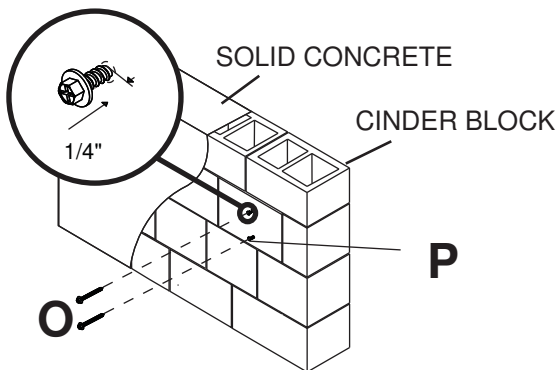

Figure 5.3
- 5** Place wall plate (**B**) on wall as a template. Level, and mark the center of the three mounting holes. Drill three 5/16" (8 mm) dia. holes to a minimum depth of 2.5" (64 mm). Insert anchors (**P**) in holes flush with wall as shown. Fasten two #14 x 2.5" wood screws (**O**) leaving 1/4" of thread exposed as shown in Figure 5.3. Hook wall plate (**A**) onto exposed #14 x 2.5" wood screws (**O**). Secure using one #14 x 2.5" wood screws (**O**) as shown in figure 5.4.